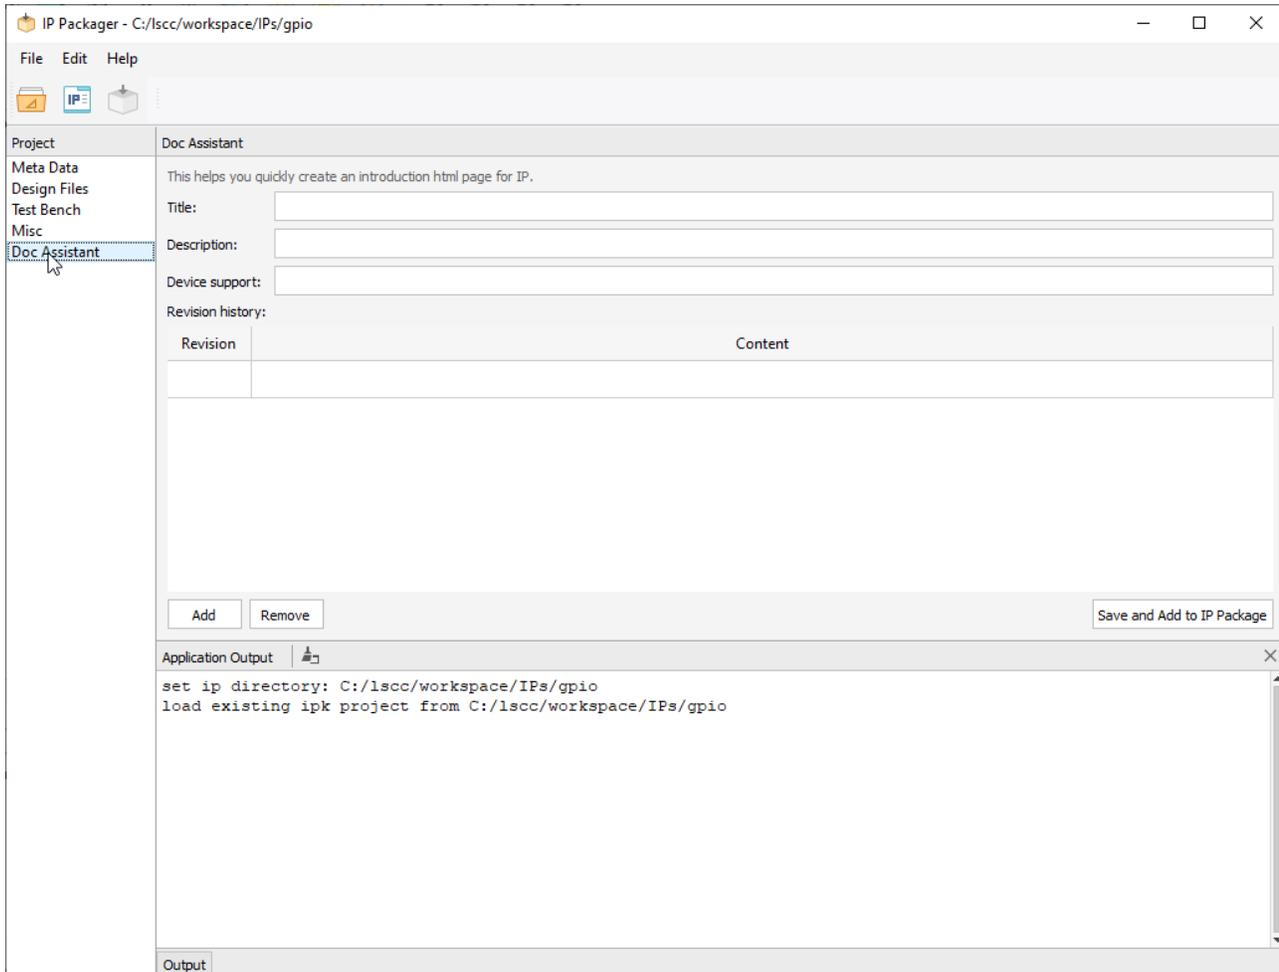

Figure 3.28. IP Packager with Doc Assistant Details
- From the IP Packager Project area, click **Doc Assistant**. The Doc Assistant information is shown in detail (Figure 3.28).